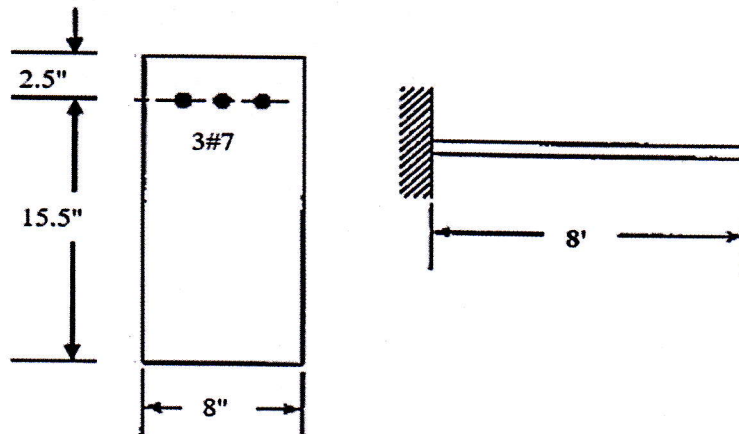

Figure 2
2. (a) An 8-ft span cantilever beam has a rectangular section and reinforcements as shown in Figure 2. For  $f'_c = 4$  ksi,  $f_y = 60$  ksi, check if the beam is safe to carry a dead load, including its own weight, of 1.5 k/ft and a live load of 0.9 k/ft. Use the USD/WSD method. (6)